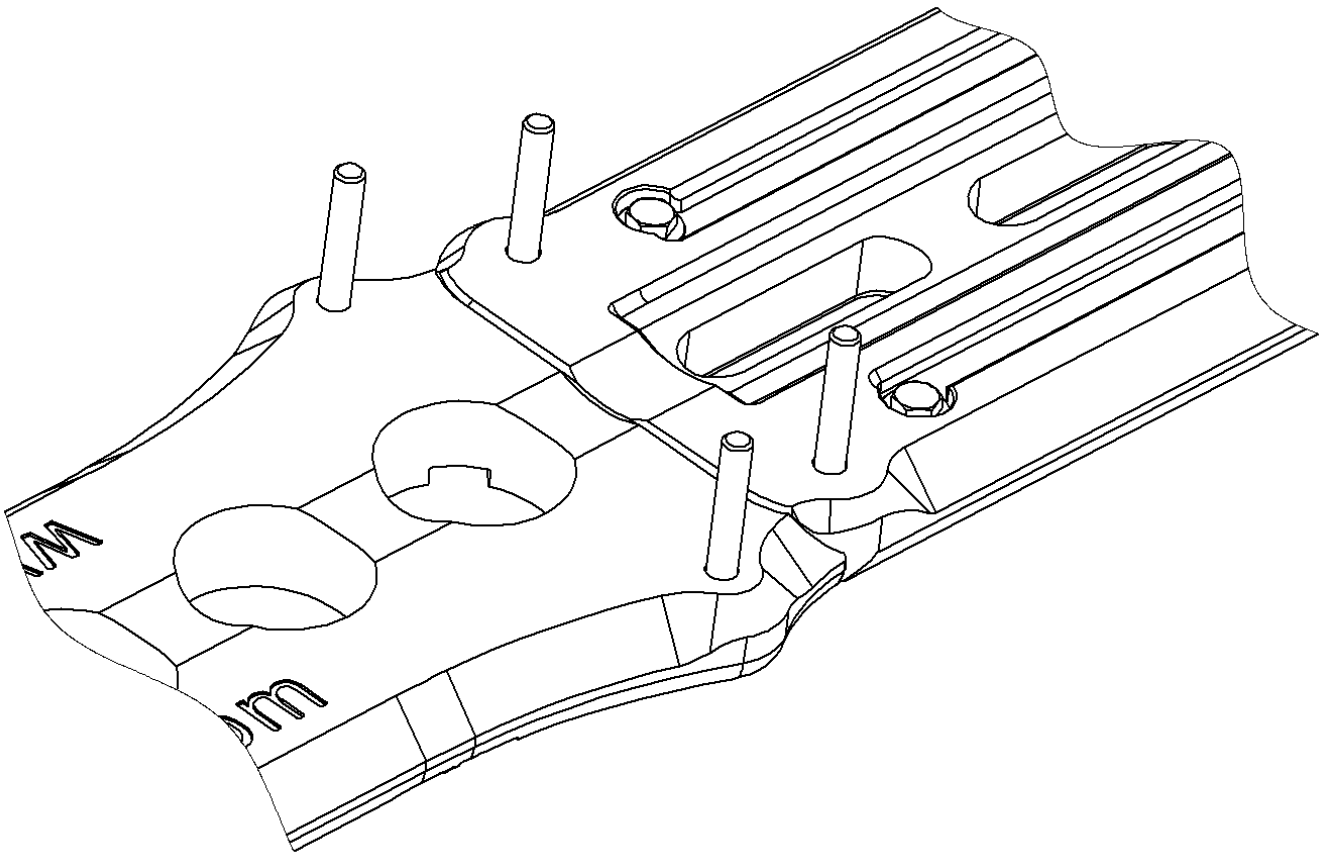

Figure 6
8. For aircraft configured for hoisting operations, temporarily remove the HS AFT INBD and OUTBD nut and washer retaining the carriage bolts on the Traction Paw, Assy, (Item 2). See Figure 6.
9. Temporarily remove the LHS FWD INBD and OUTBD nut and washer, retaining the carriage bolts on the Bear Paw, Assy, Kit, (Item 1). See Figure 6.